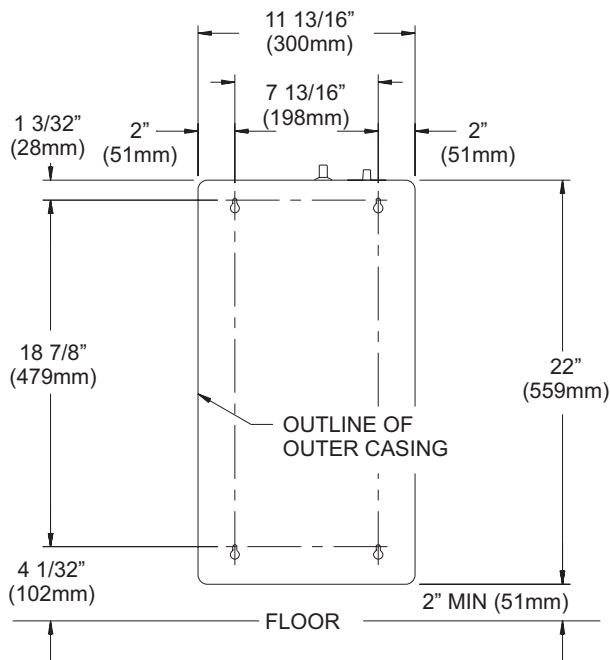

Figure 9 (SR-6W)
Refer to **Figures 9, 10, 11 and 12** for measurements in order to locate (4) mounting holes on wall. **Figures 9, 10, 11 and 12** are the front views of the heaters.